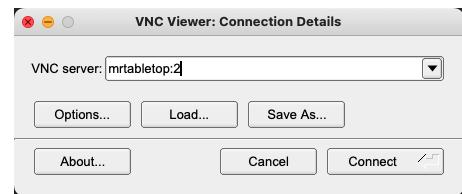

Figure 10: Example of a VNC connection interface.
3. Use VNC to connect to one of the tabletop systems using the login information below. Figure 10 shows an example.